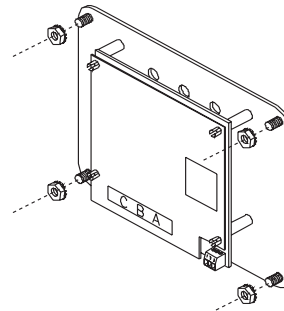

Figure 1: Diagnostic Display Assembly Installation
5. Install the new diagnostic display assembly, using the new nuts that are provided (see Figure 1).